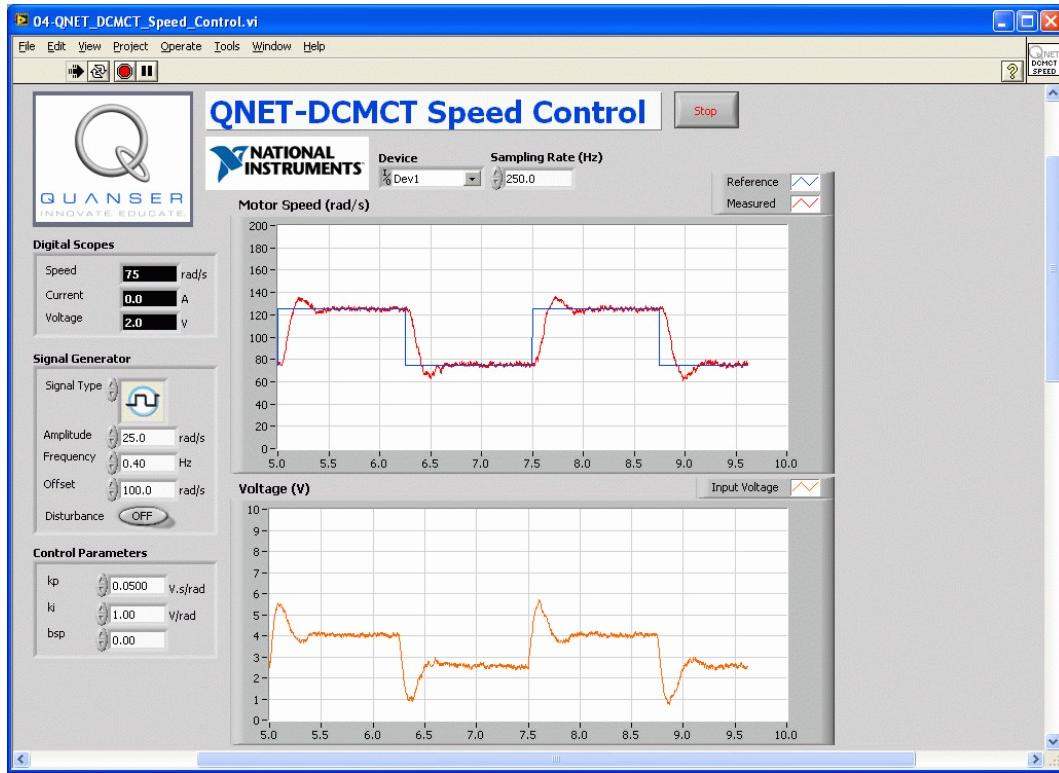

Figure 3.2: Virtual instrument for DC motor speed control
Tracking a square wave with various PD gains are discussed in the laboratory as well as the effects of set-point weighting and integrator windup. The steady-state errors due to triangular references are also assessed. The virtual instrument for speed control is shown in Figure 3.2.
2. Run the QNET_DCMCT_Speed_Control.vi. The motor should begin rotating and the scopes should look similar as shown in Figure 3.2.
2. Run the QNET_DCMCT_Speed_Control.vi. The motor should begin spinning and the scopes should look similar as shown in Figure 3.2.
6. Capture the measured SLD speed response. Make sure you include both the *Speed (rad/s)* and the control signal *Voltage (V)* scopes.